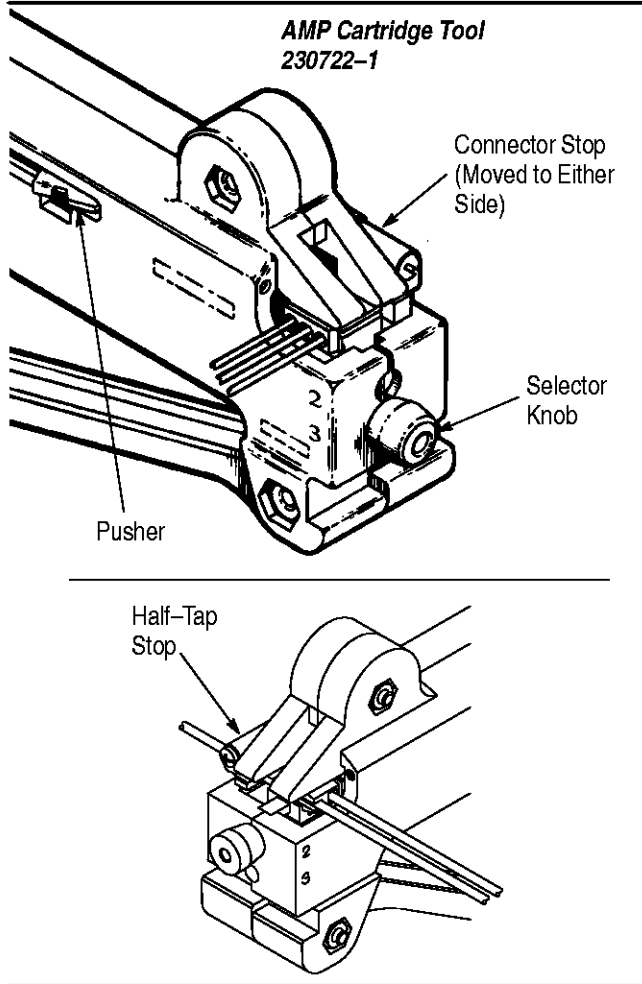

Figure 4
4. For two- or three-wire connectors, trim wire ends flush. Insert wires into holes until bottomed in wire entry housing. See Figure 4.
- Updated Figure 4 to show half-tap stop on opposite side